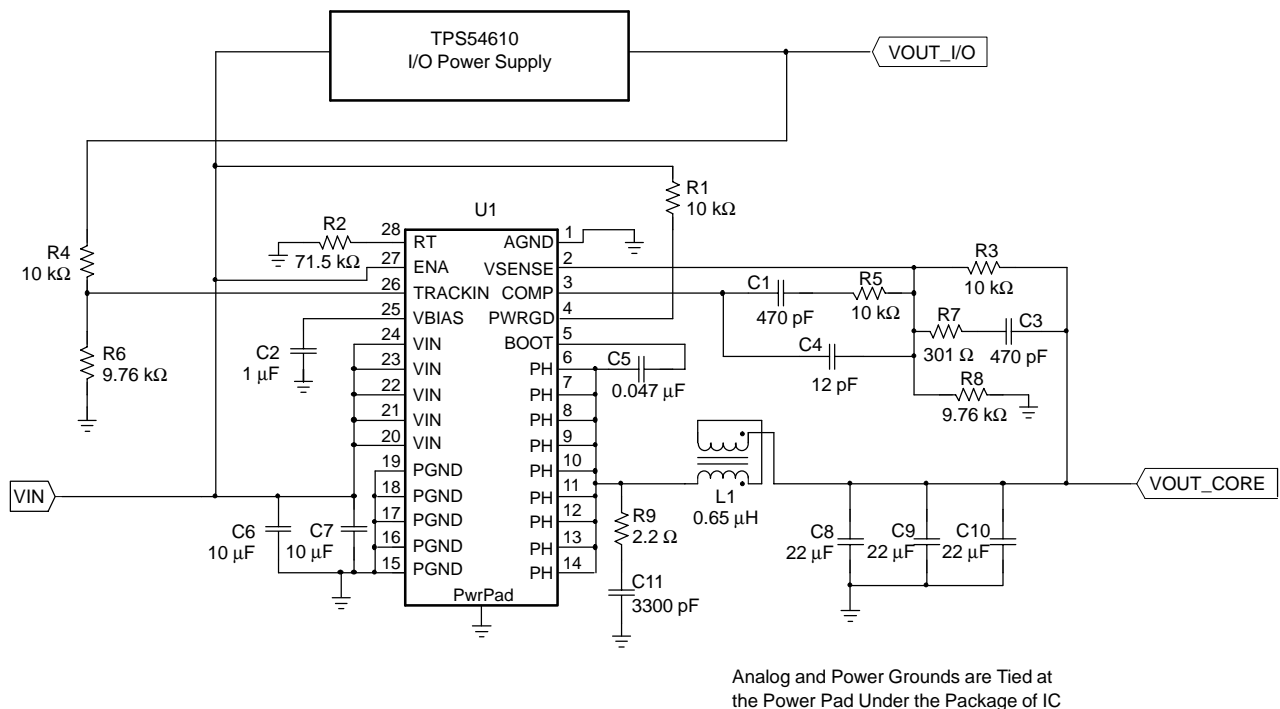

Figure 9. Application Circuit
(1) Specified by design
(2) Static resistive loads only
(3) Specified by the circuit used in Figure 9
⁽³⁾ Specified by the circuit used in Figure 9
Figure 9 shows the schematic diagram for a typical TPS54680 application. The TPS54680 (U1) can provide greater than 6 A of output current at a nominal output voltage of 1.8 V. For proper thermal performance, the exposed thermal PowerPAD underneath the integrated circuit package must be soldered to the printed-circuit